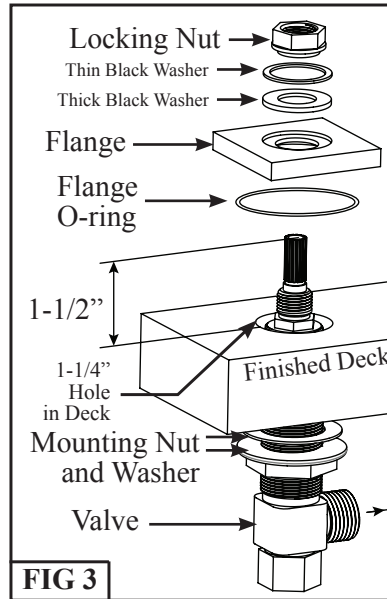

FIG 3
Step 1: Install the Valves with the Stem protruding 1-1/2" above the finished deck through the 1-1/4" hole while using the flange, 2 washers and locking nut as your top mounting gear. See **FIG 3**